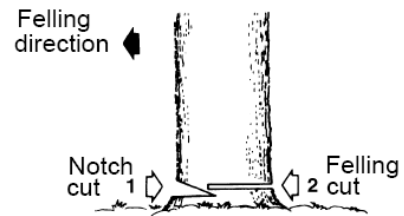

Fig.13
3. Make a notch cut one-third of the way into the tree on the felling side (Fig.13).
4. Make a felling cut from the opposite side of the notch and at a level slightly higher than the bottom of the notch (Fig.13)